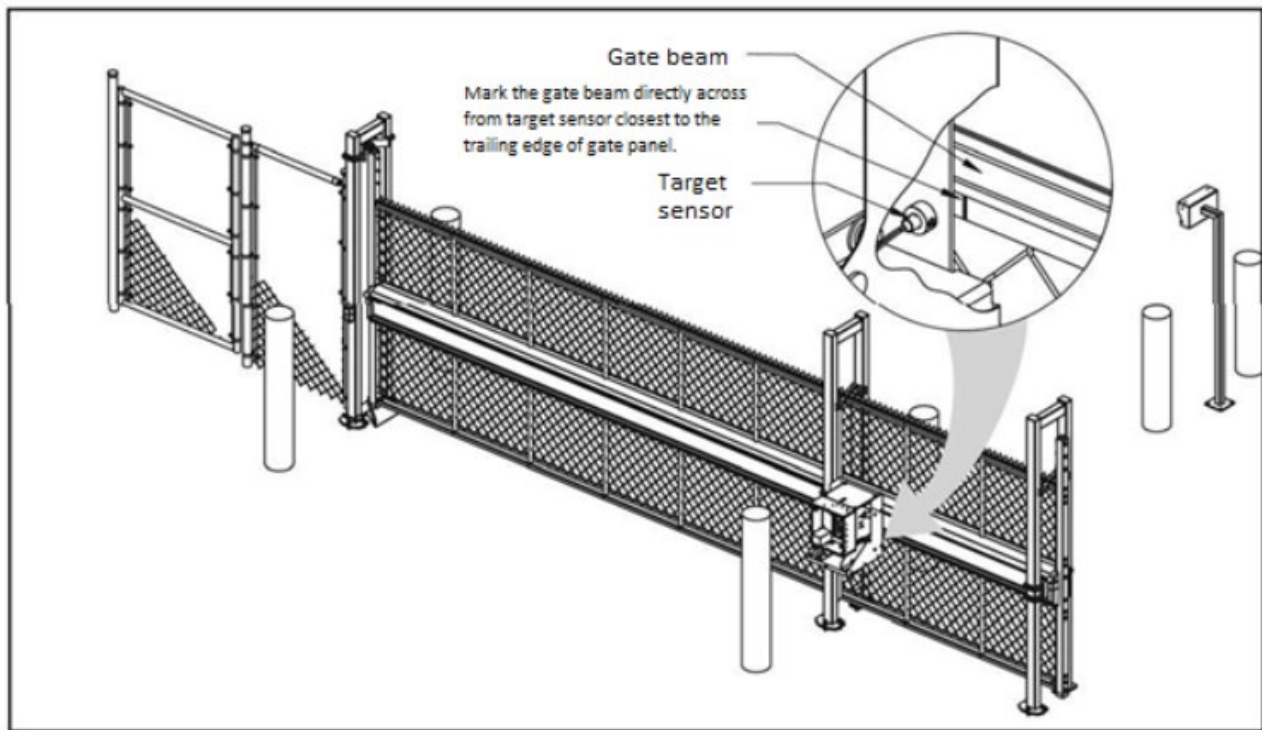

Figure 13. Marking Gate Beam
1. With the gate CLOSED, mark the gate beam directly across from target sensor that is closest to the trailing edge of the gate. See Figure 13.
If “ALERT 15 - NO TARGET” appears on the display after the target magnet has been installed and a full gate cycle completed (steps 6 & 7), it means that the target magnet has not been detected by the operator. Check beam alignment and make sure the target magnet passes across the face of the sensor. See Figure 13. Repeat steps 6 and 7.